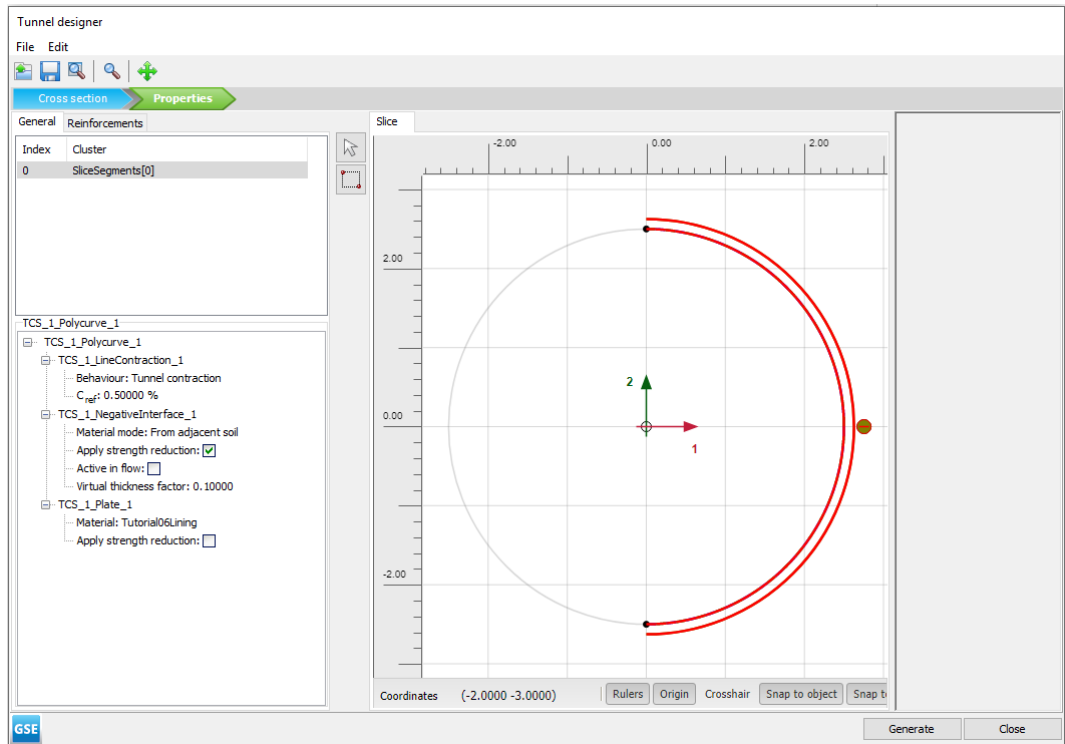

Figure 5–4: Tunnel model in the Properties tab
- 11 Right-click the segment in the display area and select the **Create line contraction** option in the appearing menu. In the polycurve properties specify a value of 0.5% for C_{ref} . The tunnel model is shown in Figure 5–4 \(p. 100\) .